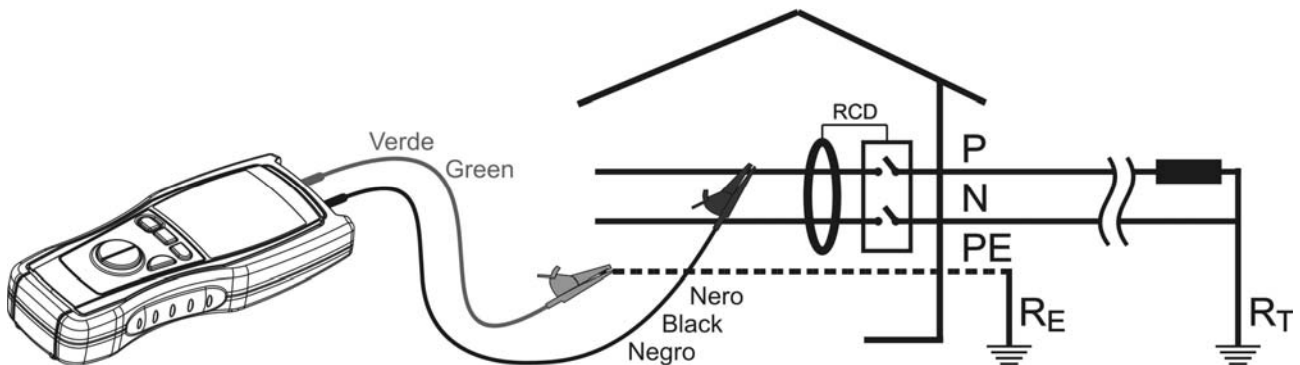

Fig. 10: Connection of the instrument's terminals during $M\Omega$ test
7. Connect the instrument's terminals to the end of the conductors on which the insulation test must be performed (see Fig. 10)